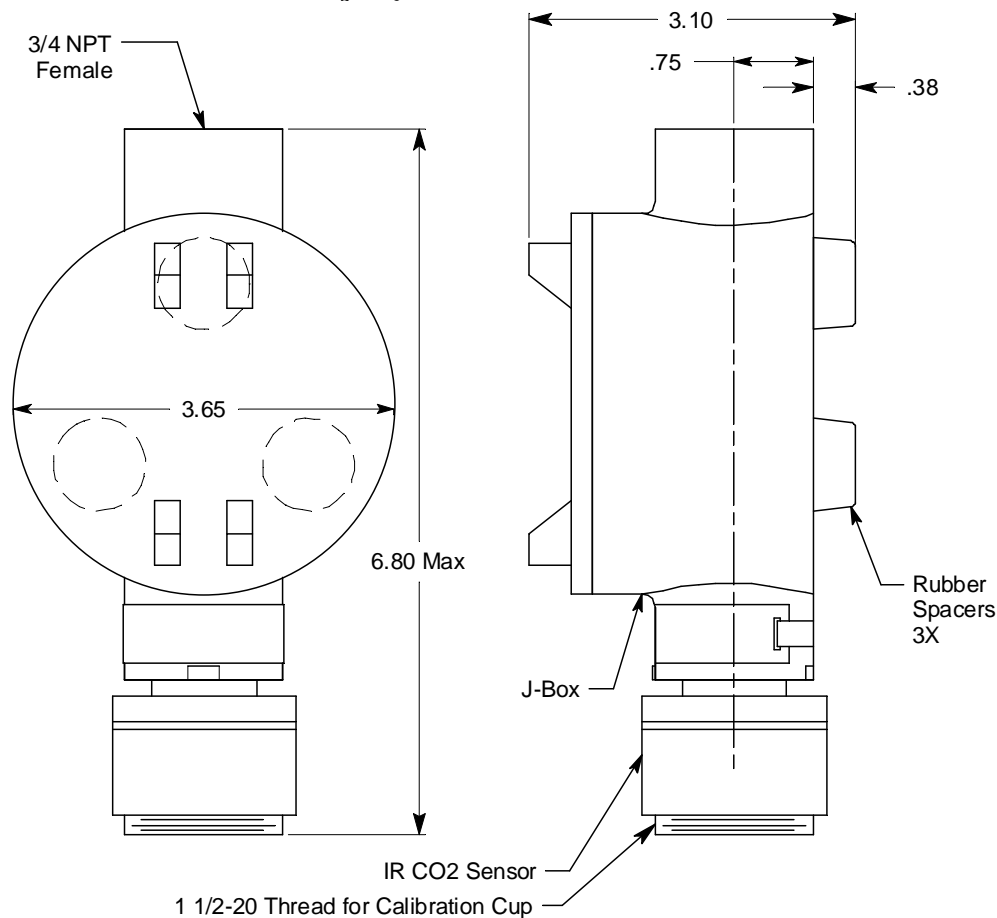

Figure 3: Mounting the CO₂ Detector
2. At the mounting site you select, hang or mount the junction box with the detector facing down (see Figure 3).